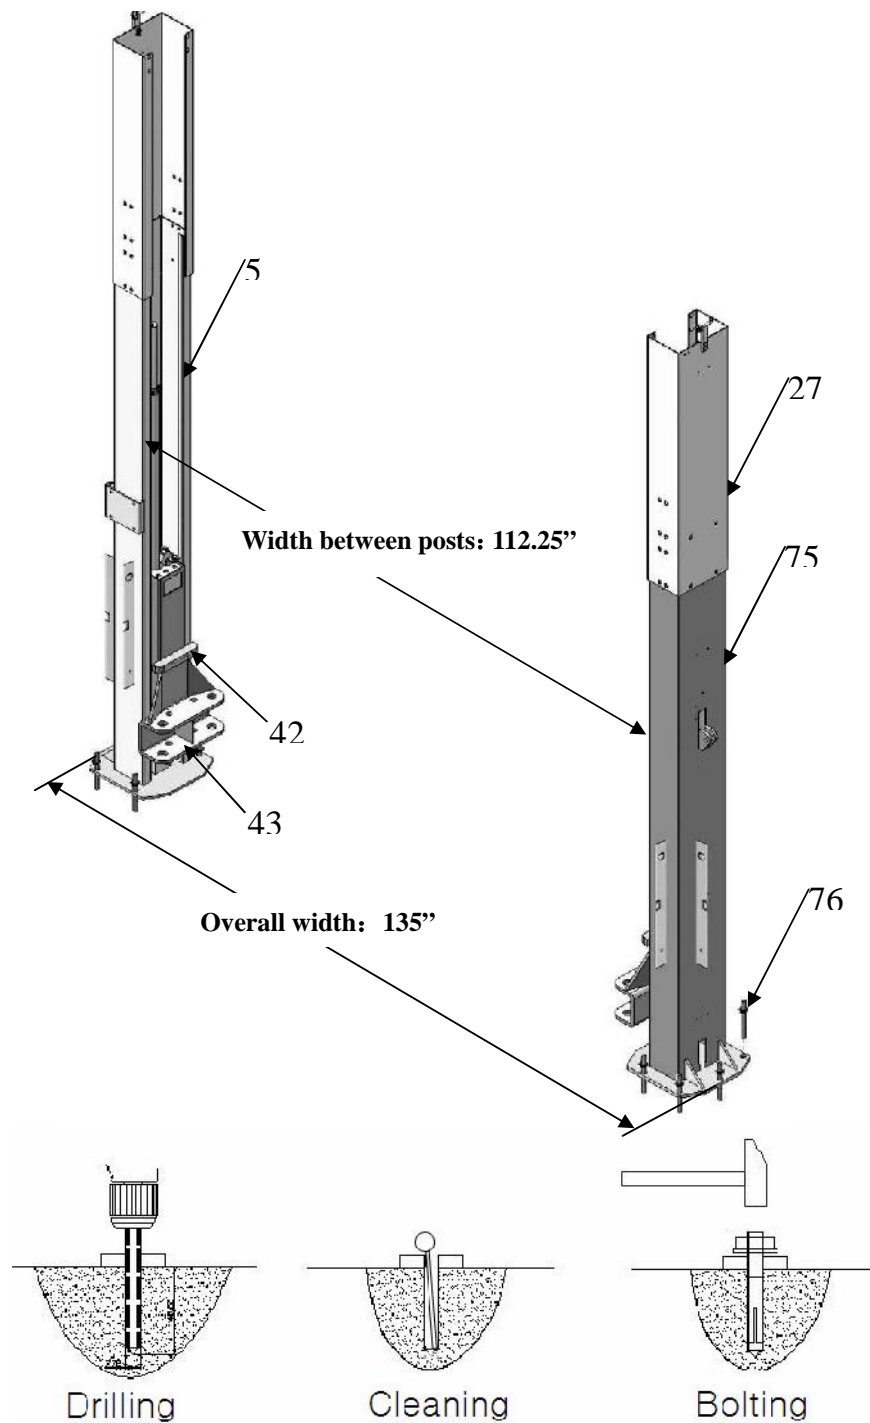

Fig. 15
F. Position posts (See Fig. 15)